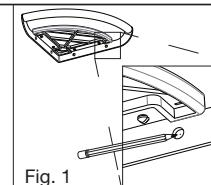

Fig. 1
4. Mark the (4) mounting hole locations from the shelf support bracket to the wall. If installing over ceramic tiles, place masking tape on the mounting area before marking the hole location. (Fig. 1)